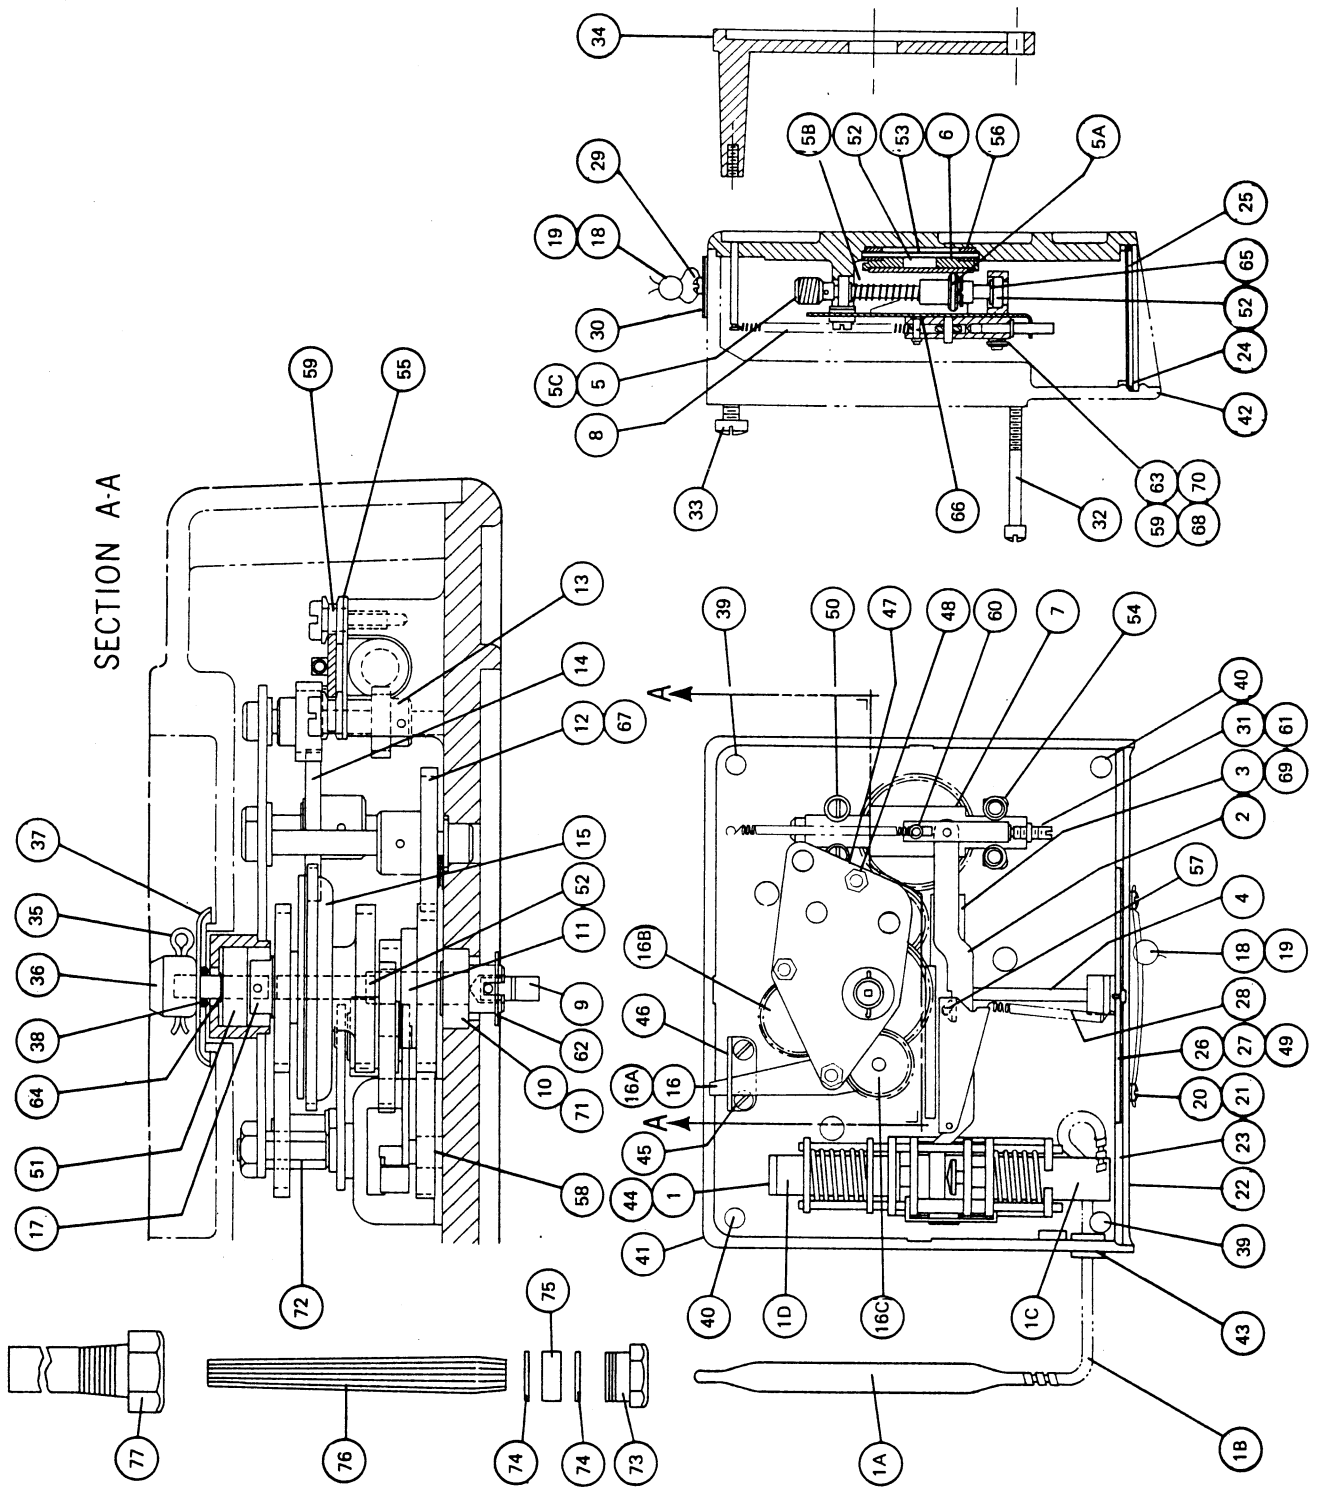

Figure 7-1 Parts Diagram
Refer to Figure 7-1 and Table 7-1.
5. Remove the two index screws (Item 39) and two shoulder screws (Item 40) from the ATC base plate to separate the base plate (Item 41) from the housing (Item 42). Remove the housing. Note the location of the index screws and shoulder screws (see Figure 7-1) during disassembly. The location of these screws must be retained upon reassembly and installation.